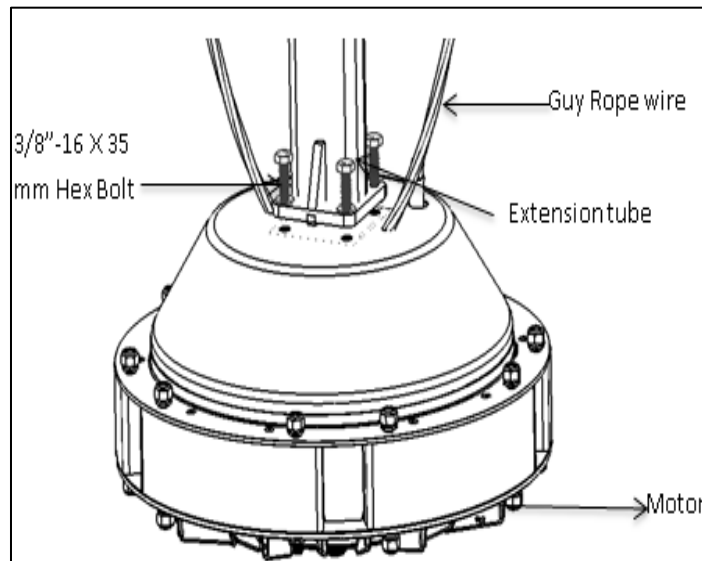

Figure 17 : Motor Assembly installation
2. Now as shown in the figure (Figure 17 : Motor Assembly installation) insert the guy wire (Safety Cable) connected to the ceiling structure through the top cover hole (in part facing the ceiling) , and bend the wire such that it comes out of the other hole.